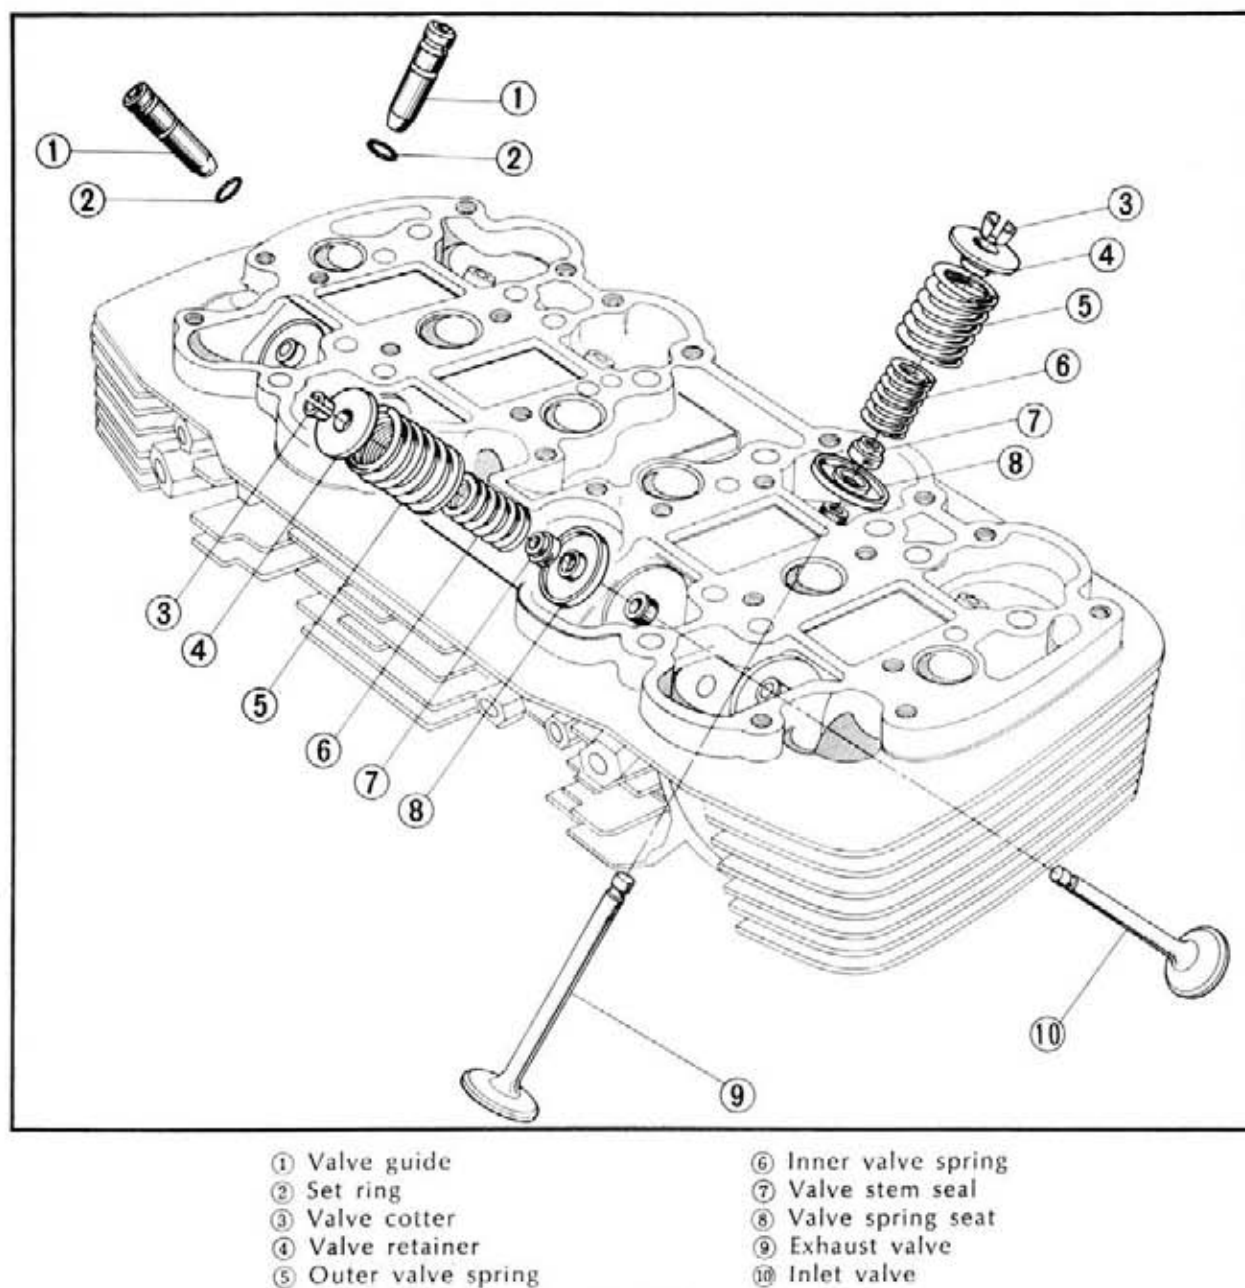

Fig. 3-55
② Thickness gauge
1. Clean the component parts of the cylinder head and assemble them in accordance with Fig. 3-55.